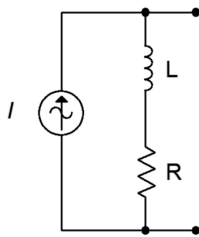

Figure 5.40
69. Design an equivalent voltage source for Figure 5.40 if $I = 10\text{E-}3\angle 0^\circ$, $R = 9.1\text{ k}\Omega$ and $L = 5\text{ mH}$. The source frequency is 100 kHz.
70. Design an equivalent voltage source for Figure 5.40 if $I = 50\text{E-}3\angle 0^\circ$, $R = 560\text{ }\Omega$ and $X_L = j350\text{ }\Omega$.